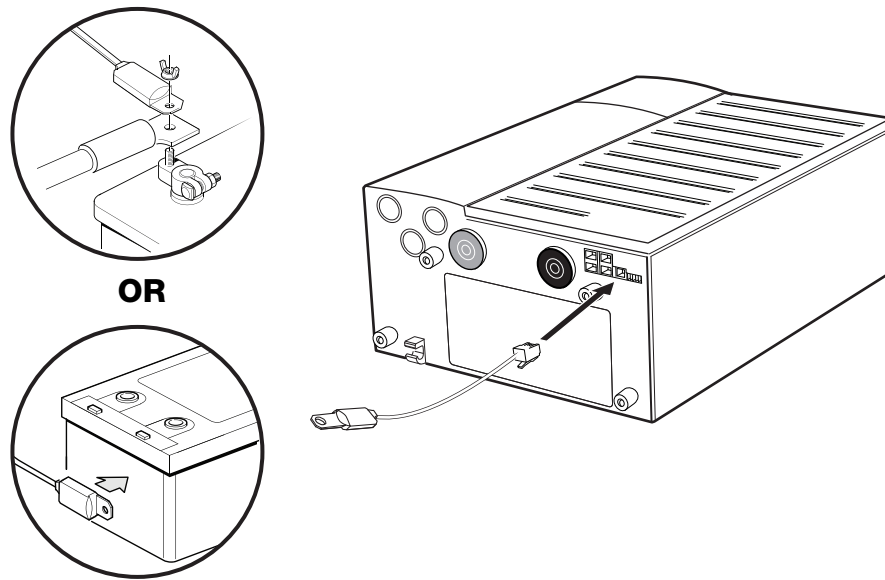

Figure 3-6 Battery Temperature Sensor Installation
2. Route the BTS cable to the battery enclosure, and then connect the BTS using one of the following methods (as shown in Figure 3-6 on page 3-11):